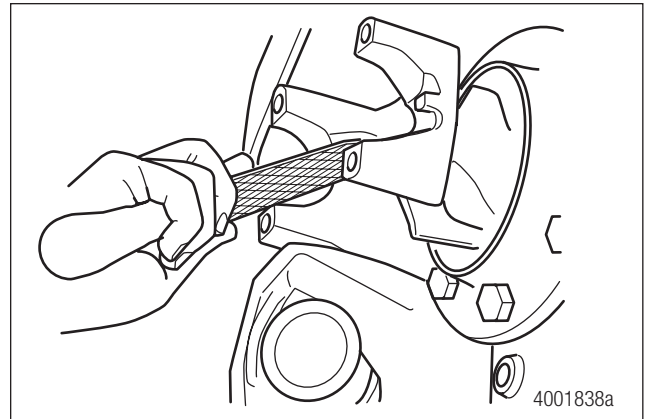

Figure 4.3
4. Inspect all end yoke or flange cross hole surfaces and bolt hole threads for damage. Remove raised metal or fretting with a fine-tooth file or emery cloth. Bolt holes must be clean and dry for assembly. Figure 4.3.